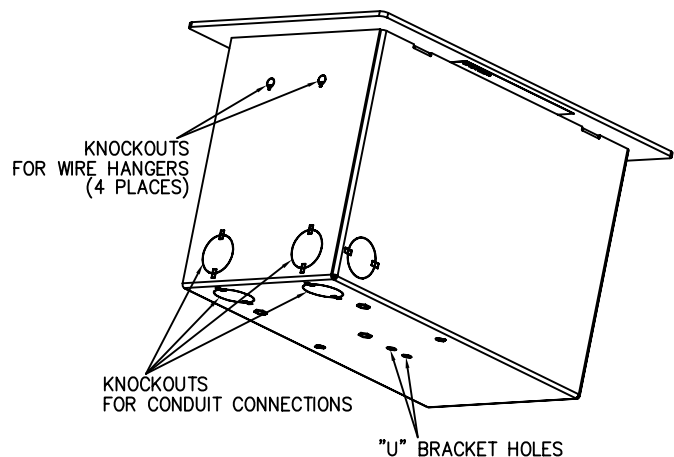

FIGURE 1
2. Remove faceplate by removing four (4) screws. Save screws for replacement.
3. Remove two small knockouts on each end of backbox for mounting with wire hangers. Remove appropriate conduit knockouts. (See Fig. 1)
9. Replace the faceplate using the four (4) saved mounting screws. Emergency lamps will not illuminate because of AC lock-out circuit. Operate test button. Lamps should illuminate. Nickel-cadmium battery units are shipped nominally discharged; lead battery units are partially charged.
3. Remove faceplate by removing four (4) screws. Save screws for replacement.
4. Remove the appropriate conduit knockouts. (See Fig. 1)
5. Locate plastic bag with "U" bracket and two (2) screws (packed in carton).
6. Attach "U" Bracket to back of backbox based on orientation of unit in the ceiling. Secure "U" Bracket with (2) Screw supplied. (See Fig. 1)